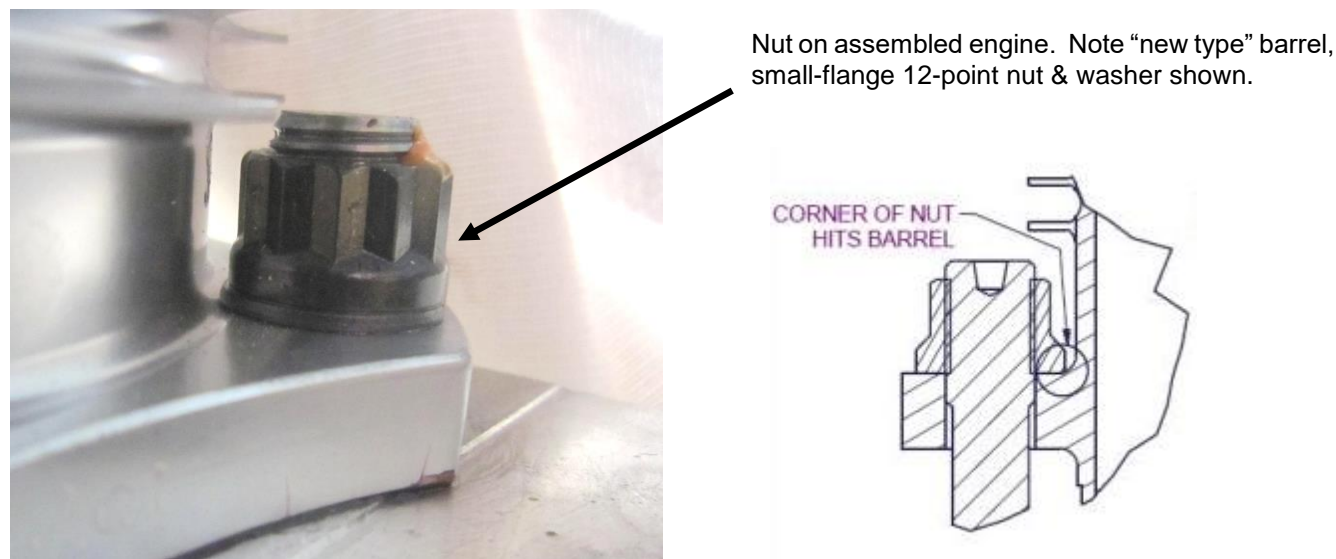

Figure 142 – Through Bolt Nut Installation Detail
- Check that all nuts and washers are clear of the radius on the base of the cylinder barrel. Figure 142 (right) shows how using certain (large-flange) nuts can result in the nut hitting on the radius at the cylinder base. To avoid this it is necessary to use a “Small-flange” nut per Figure 142 left, or a nut which has been modified – the diameter of the nut base can be reduced in a lathe. This requirement also applies to the washers used: these parts are custom made for Jabiru from hardened steel – substitutes must not be used.